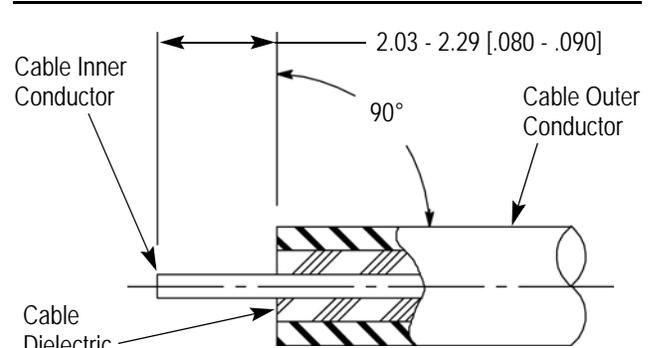

Figure 3
- Strip the cable to the dimensions shown in Figure 3.